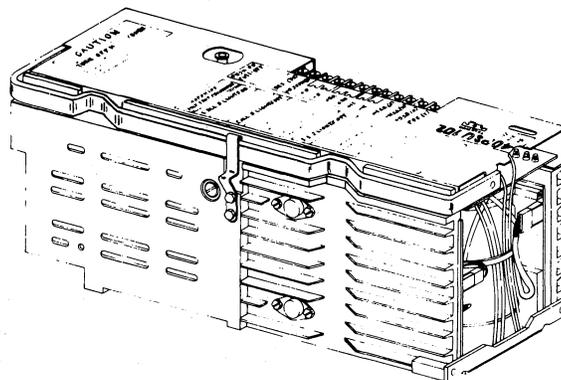
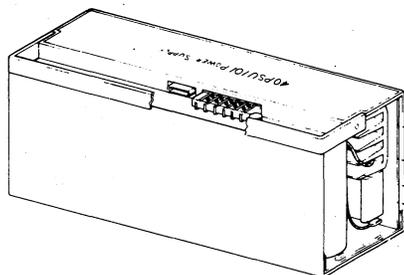

Fig. 2—Synchronous DATASPEED 40 Power Supply (40PSU102)
Fig. 1—DATASPEED 40 Power Supply (40PSU101)
1.01 This section provides description and operation for both the DATASPEED 40 Power Supply (40PSU101) (Fig. 1) and the Synchronous DATASPEED 40 Power Supply (40PSU102) (Fig. 2). Refer to 5. REFERENCES of this section for other documents associated with the power supplies.